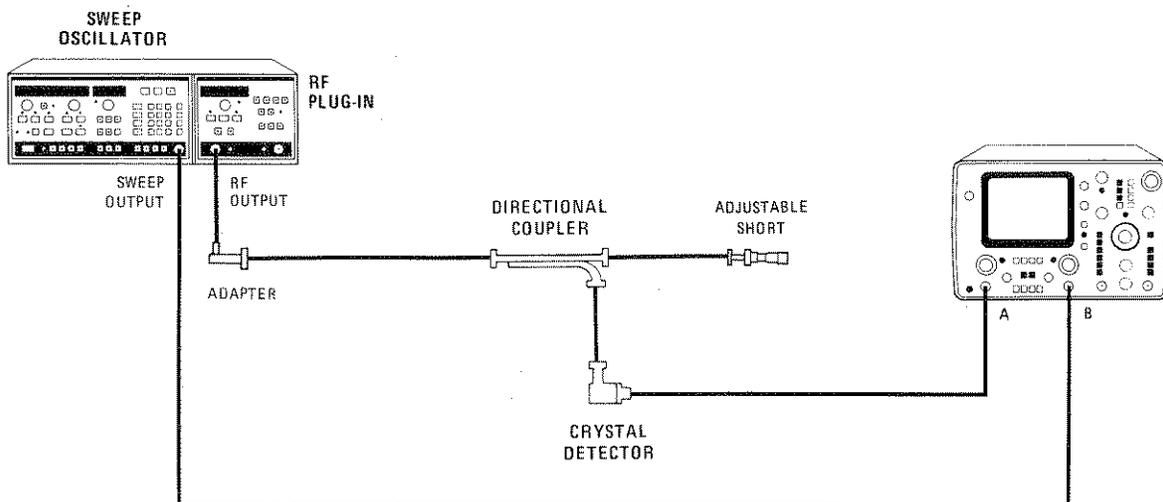

Figure 4-13. High Frequency Output SWR Test Setup
12. Connect equipment as shown in Figure 4-13.